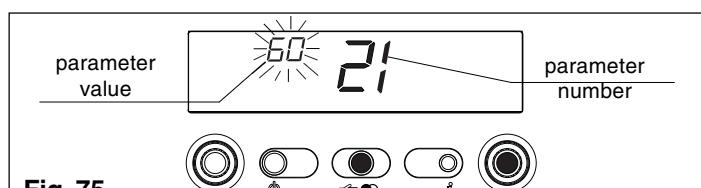

Fig. 75
- press ENTER to access the parameter modification function. When ENTER is pressed, the previously set value starts flashing (fig. 75)
- press ENTER to access the parameter modification function. When ENTER is pressed, the previously set value starts flashing (fig. 43 C.A.I. -MIX C.S.I.; fig. 75 R.A.I. - MIX R.S.I.)